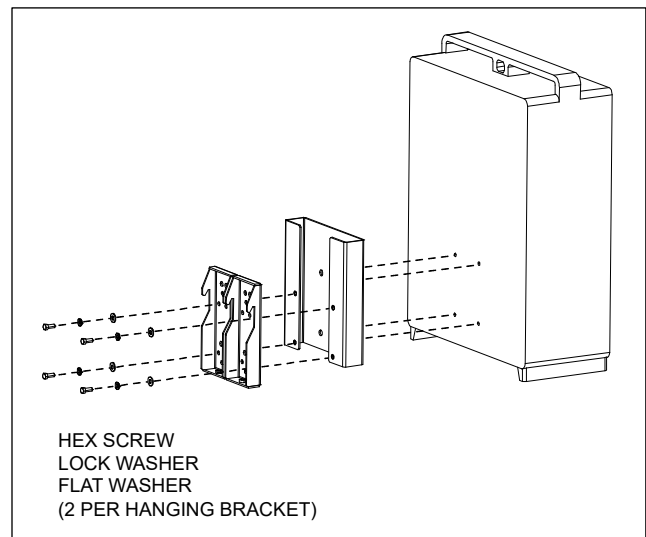

Figure 10
3. Attach two hanging brackets to the back of the upper radio bracket. Secure using four 1/4-20 hex screws (5/8" long) with lock washers and flat washers (Figure 10).